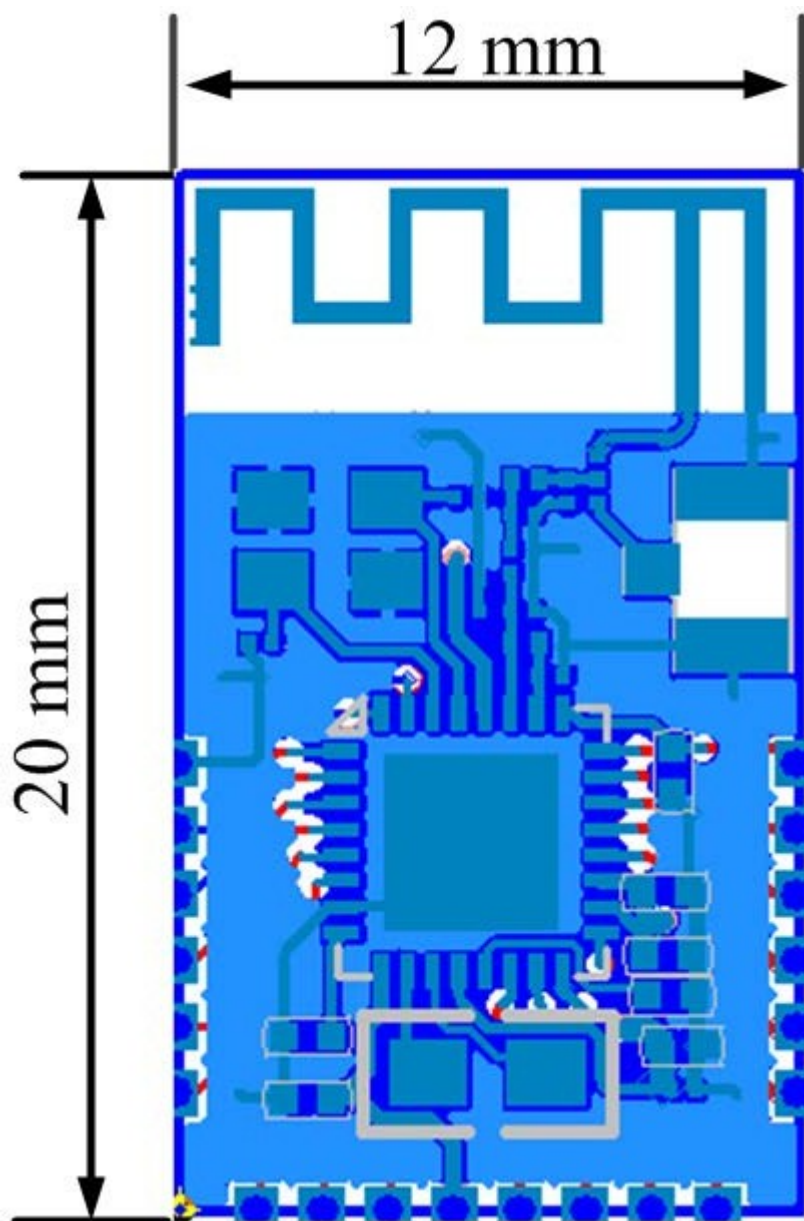

Figure 4-1 TB3106 Dimensional Drawing
The external dimensions of TB3106 are 12.0mm (W) x 20mm (L) x 0.8mm (H) and its external dimensions are shown in Figure 4-1.